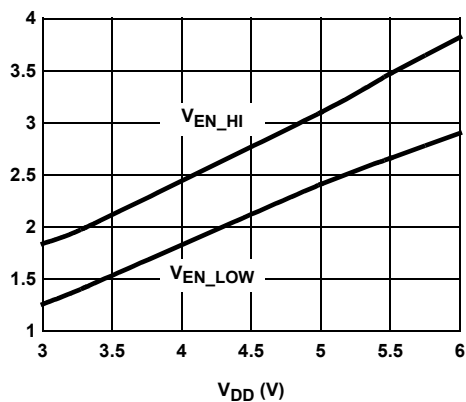

FIGURE 5. V_{EN_HI} & V_{EN_LOW} vs V_{DD}
- V_{EN_HI} is the EN input high level (function of V_{DD} voltage, see Figure 5)